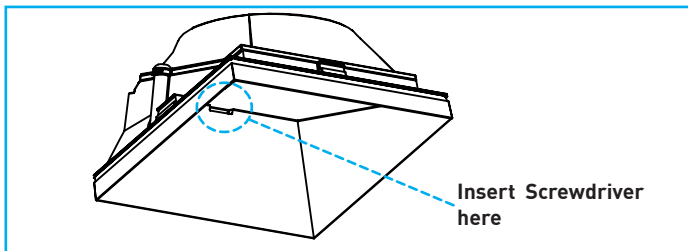

Fig.55
- A. Grasp baffle using soft gloves or with clean soft cloth and remove by pulling down or inserting small flat head screwdriver to wallwash baffles and carefully prying down as shown in *Fig.55*.
1. Grasp baffle using soft gloves or with clean soft cloth and remove by pulling down or inserting small flat head screwdriver to wallwash baffles and carefully prying down as shown in *Fig.55*.
- A. Remove baffle by pulling down or inserting small flat head screwdriver to wallwash baffles and carefully prying down as shown in *Fig.55*. Remove optic (see D-1 on page 11).